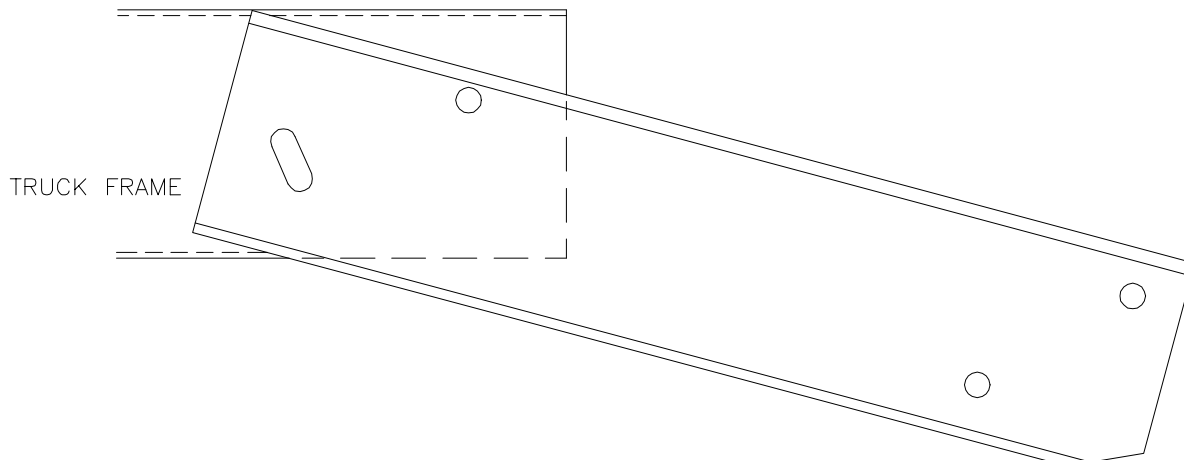

FIGURE 1 (driver side view)
STEP 1: Using 1/2 hardware, loosely install mounting brackets on the outside of truck frame rails with the angled end down. Refer to figure 1 and 2. DO NOT TIGHTEN mounting hardware.